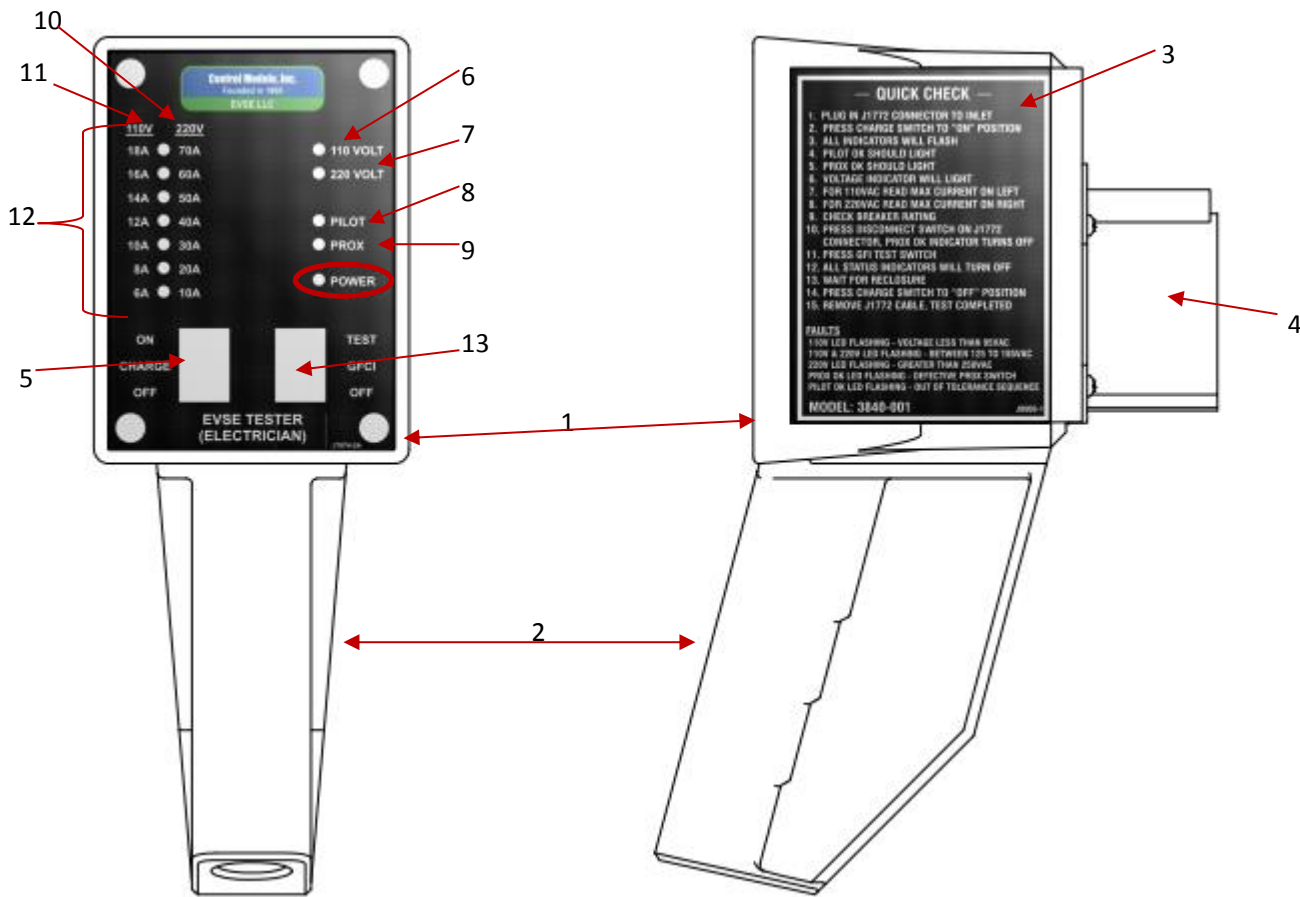

Figure 7
**Step B1:** Proceeding from **Step 5** of **Initial Troubleshooting (A)**, with the **CHARGE ON** switch of the tester turned on (**Item 5, Figure 7**), there should be lights indicating the tester and the EVSE are communicating. The LEDs on the left (**Item 12, Figure 7**) should indicate the charging current capacity of the EVSE. Typically, that will be 30A at 220VAC. Are the LEDs in **Item 12** above on?
**Step B2:** Is the tester **PILOT** LED (**Item 8, Figure 7**) lit?
**Step B3:** Does the tester **PROX**(imity) LED (**Item 9, Figure 7**) light without flashing?
**Step B4:** Is the 220V LED (**Item 7, Figure 7**) lit on the tester while the 110V LED (**Item 6, Figure 7**) is not lit? When the AC voltage is between 185VAC and 250VAC, the 220V LED will be lit and solid on the tester. Is the 220V LED lit?
**Step B5:** Press the **GFCI Test** toggle switch (**Item 13, Figure 7**). This creates a 20 ma leakage current to ground, which should cause the EVSE under test to drop AC power and indicate a ground fault condition. All status LEDs on the tester will turn off. Wait one minute and the EVSE unit will provide an automatic reclosure which will restore power to the unit. Does this process occur as expected?
NO: If the cable has not retracted after one minute, check the EVSE voltage L1 to L2 (**Figure 7**). If the voltage measured between L1 and L2 is under 185VAC or greater than 250VAC, there is a line voltage problem that should be investigated and corrected before proceeding further. If the voltage is normal, contact Customer Support for further assistance.